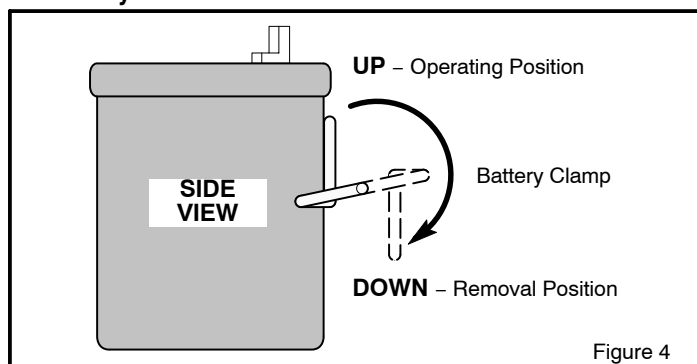
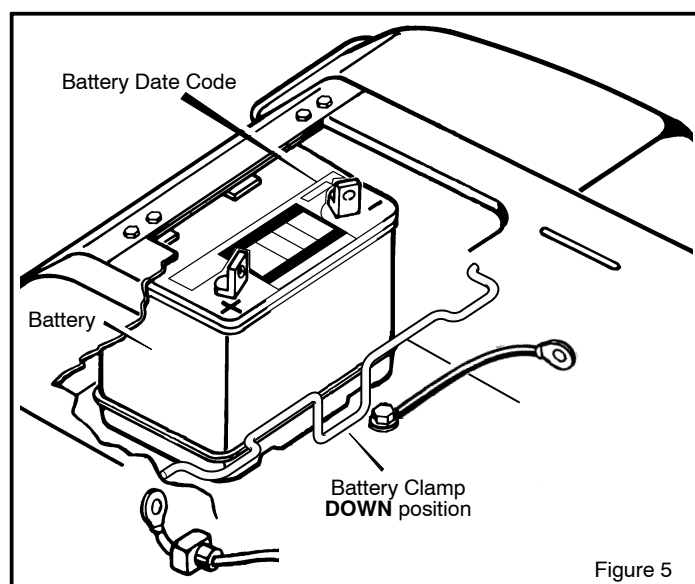

Figure 4
Figure 5
1. Check the **battery date** on top of the **battery** (Figure 5).
1. Rotate the battery clamp to the DOWN position (Figure 4 and Figure 5).
3. Rotate the battery clamp to the **UP** position (Figure 4 and Figure 6).